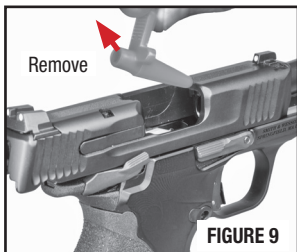

FIGURE 9
- Remove the empty chamber flag from the pistol (FIGURE 9).